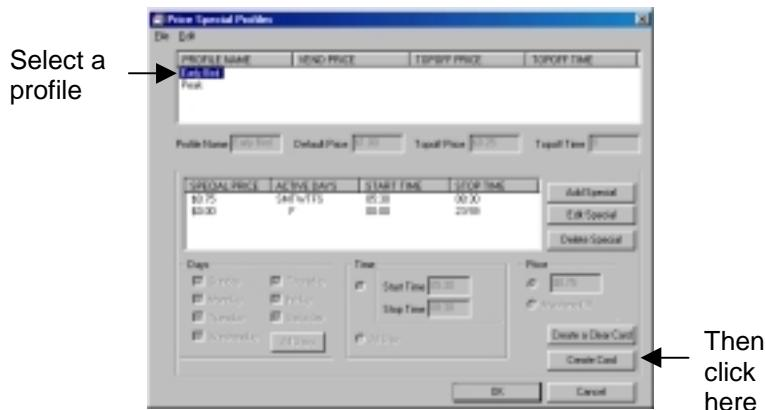

Figure 8.26 Creating a Price Special Card
1. In the Price Special Profile window select a profile to create a card for from the Profiles List Window (Figure 8.26).
3. Click the Create Card button. (Figure 8.26).